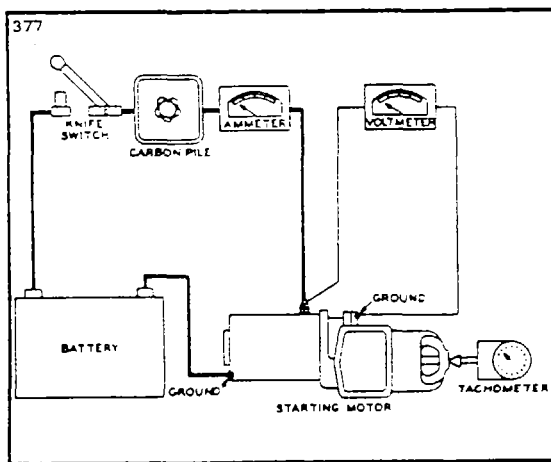

Figure 10-31. No-Load Test Hook-up
a. After the starting motor is reassembled, it should be tested to see that the no-load current at a certain voltage is within specifications as given in paragraph 10-61. To make this test, connect as shown in Figure 10-31. If current is too high, check the bearing a-